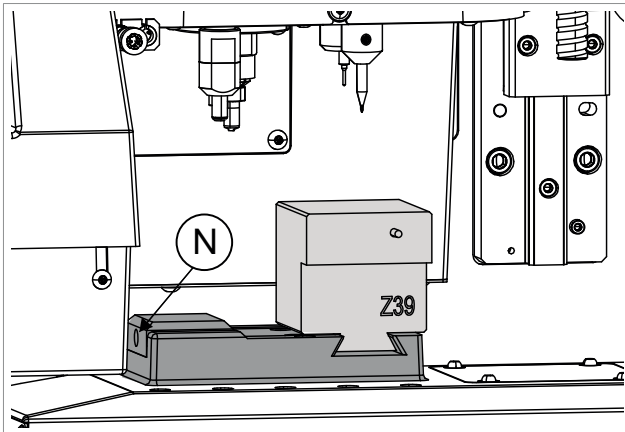
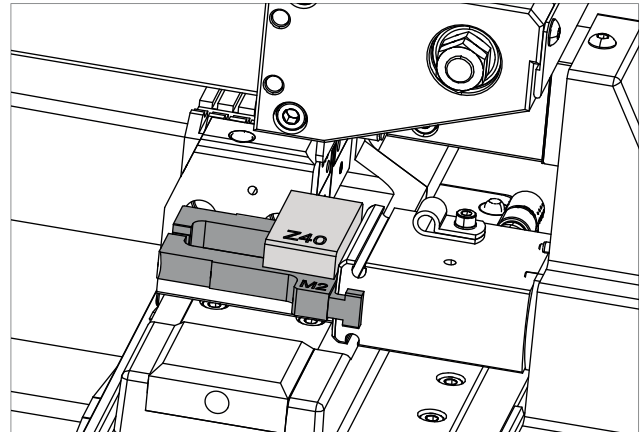

Fig. 66
Fig. 67
- 1) Loosen the grub screw (N) (Fig. 66) and remove the existing clamp.
- 2) Insert Z39 template into the dovetail. (Fig. 66).
- 3) Tighten the grub screw (N).
- 4) Installing the Z40 template between the robot grippers. (Fig. 67).